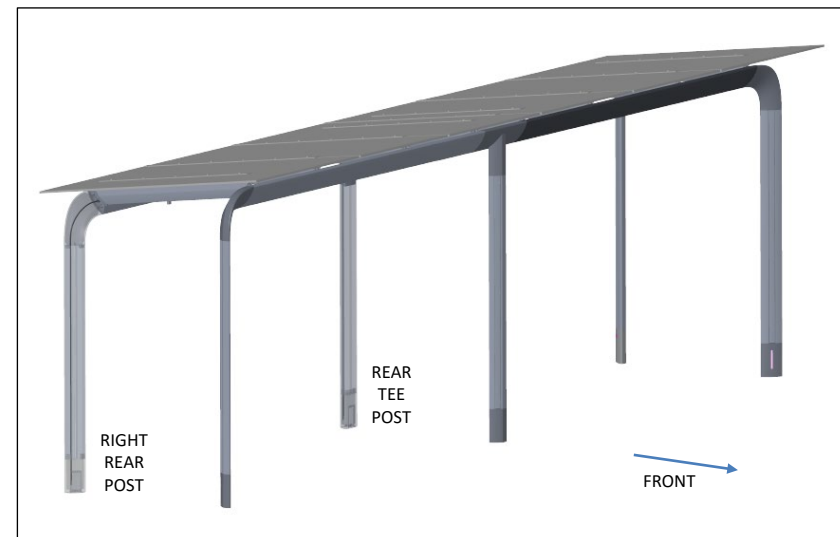

Fig. D2 – install 16 gauge jacketed cord
1. Run 3-wire 16 gauge cord from rear right upper corner, through grommet and into access hole, down the right vertical post to line-in voltage wiring. Do not connect to line-in voltage. See Figs. D2 and D3.